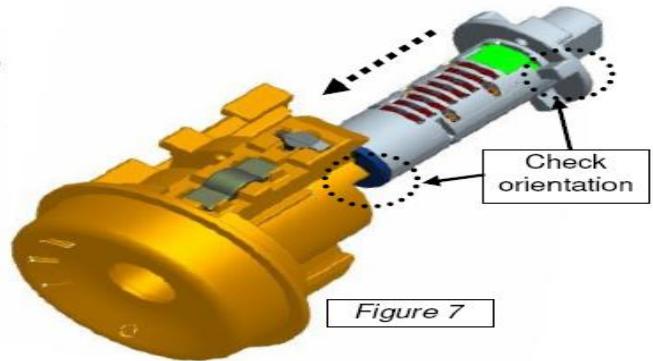

Figure 7
6) Fully install the cylinder into the housing in the proper orientation. Reference figure 7.
7) Install lever (K) then lever spring (L) and finally cover-plate (M) into housing (E). Make sure to install